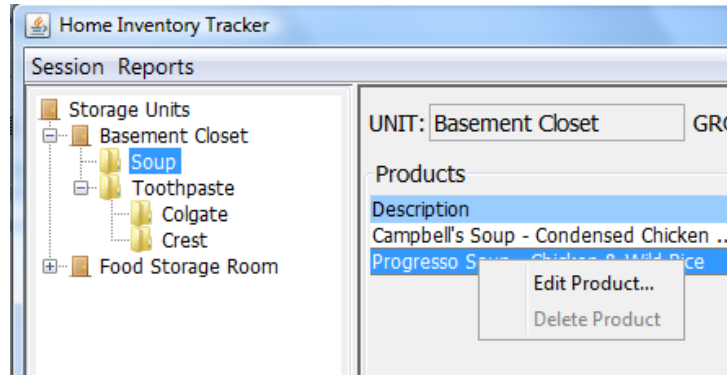

Figure 5 - Product Context Menu
- 4) The Product Context Menu (Figure 5) is accessed by selecting and then right-clicking on a product in the Product Table. This menu provides the following operations: